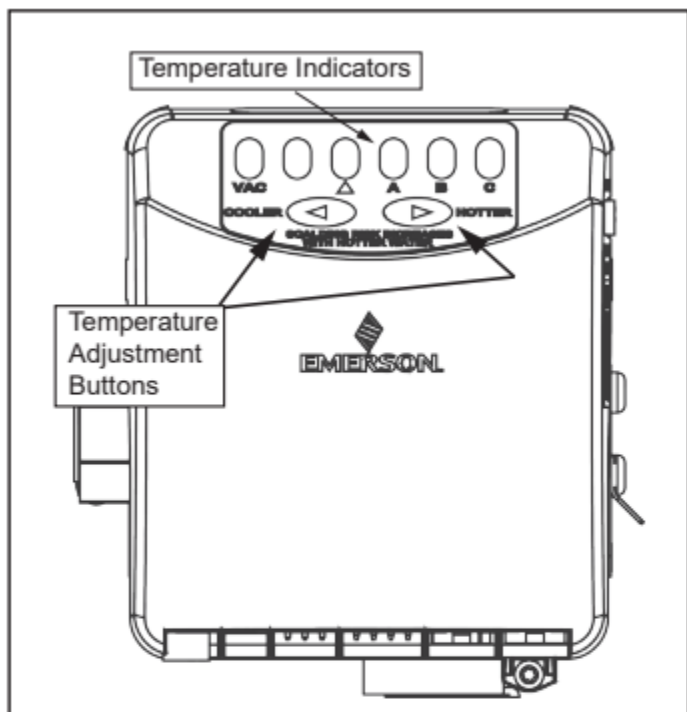

Figure 29. Adjusting the Thermostat
Mixing valves are available at plumbing supply or hardware stores. See **Figure 2** (page 8). Follow manufacturer's instructions for installation of the valves. Before changing the factory setting on the thermostat, in this manual, see **Figure 29**.
1. "Wake Up" the temperature indicators by holding down both "COOLER" and "HOTTER" temperature adjustment buttons at the same time for one second. See **Figure 29**. One or two of the temperature indicators will light up. These indicators will only remain on for 30 seconds if no further buttons are pressed. After 30 seconds the control will go back to "Sleep" mode.